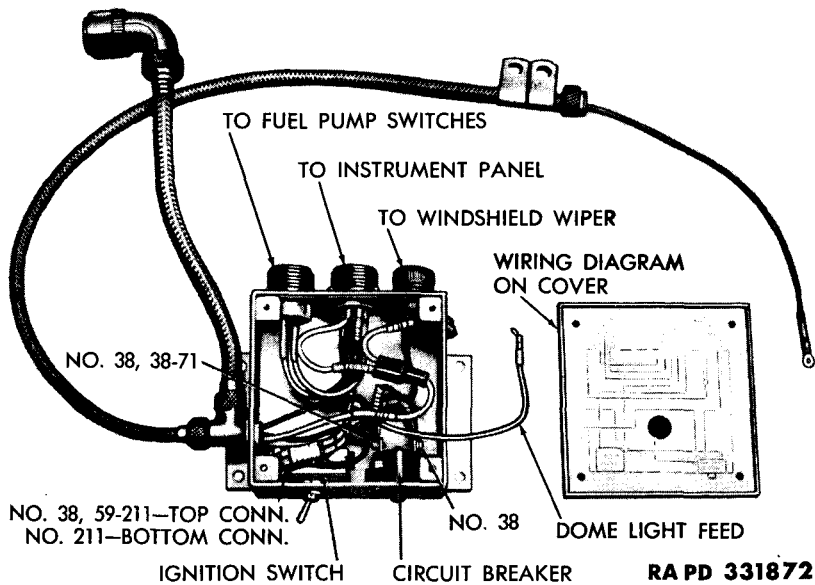

Figure 35. Connections at emergency ignition switch box.
(2) *Remove circuit breaker* (fig. 35). Remove two screws holding circuit breaker to box. Pull circuit breaker out of inside of box and remove screws holding terminals to circuit breaker.
(3) *Remove emergency ignition switch* (fig. 35). Remove small flat nut holding emergency ignition toggle switch to box. Remove switch from inside of box and remove wires from switch. Note position of wires before removal.
c. ASSEMBLY. (1) *Install ignition switch.* Connect single wire (No. 211) to bottom terminal of switch. Connect wires (No. 59 and No. 211) to top terminal of switch. Tighten screws securely. Slide switch through opening of box and install nut locking switch in box.